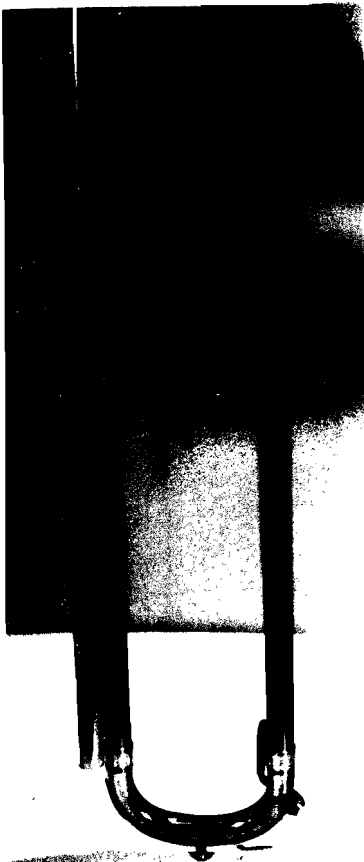

Figure 81
- a) Insert one of the inner slides into its companion outer slide, leaving the other inner slide free (See Figure 81, page 152).